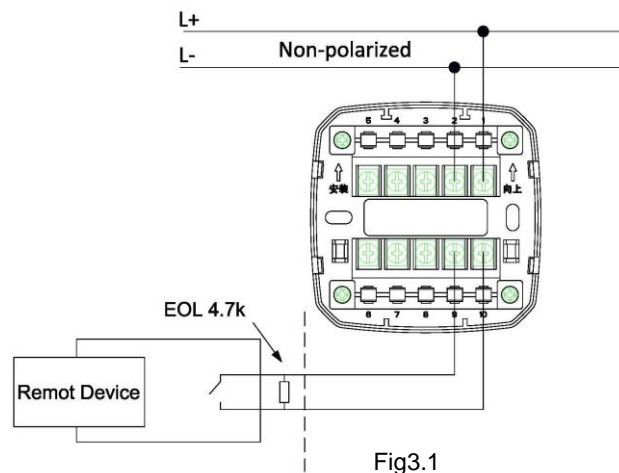

Fig3.1
- Loop wiring is shown in Fig.3.1.